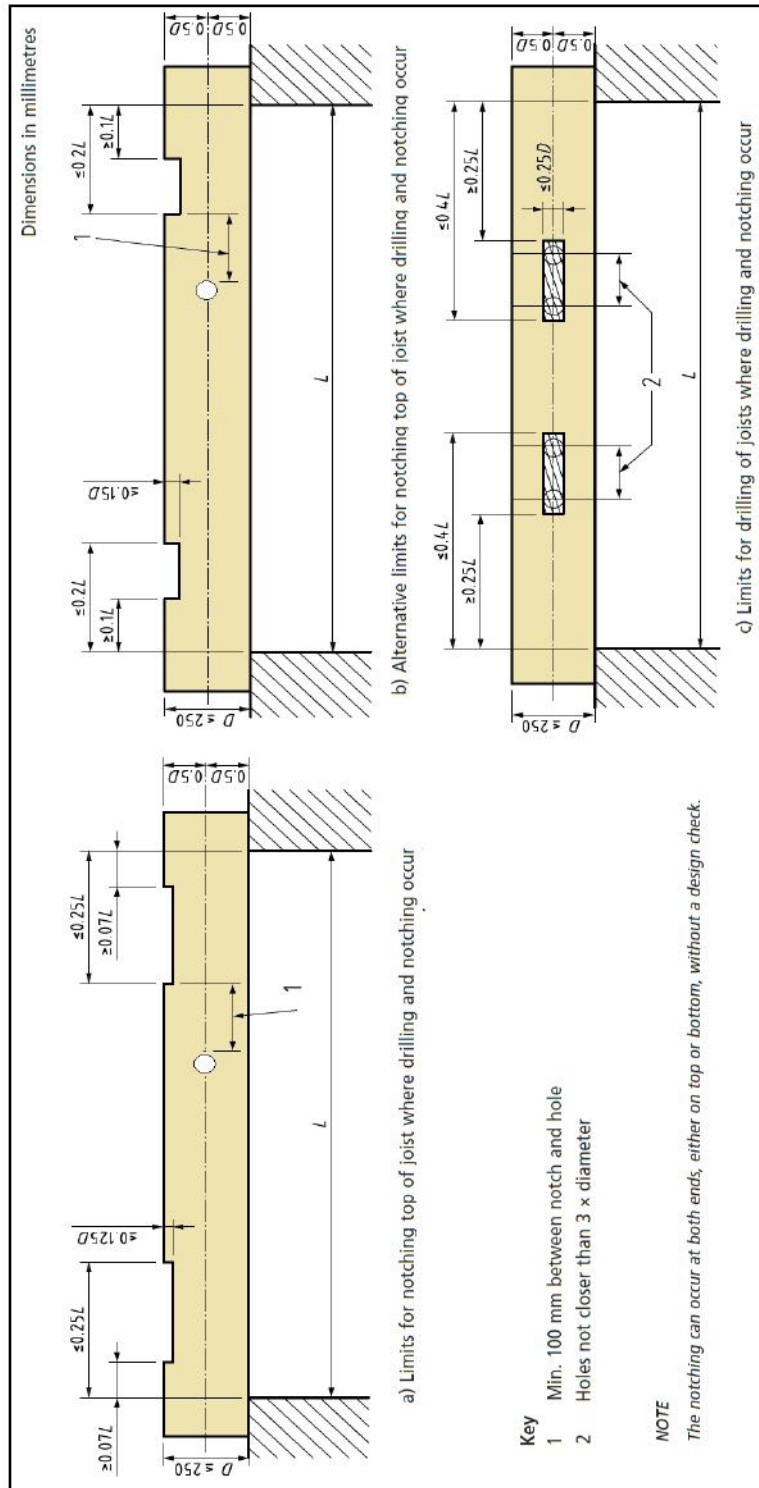

Figure 4 Limits for notches and drilling of solid timber floors
- Where pipework is laid across solid timber joists fitted with flooring, the pipework shall be located in purpose-made notches or circular holes. Notches and holes shall conform to Figure 4.